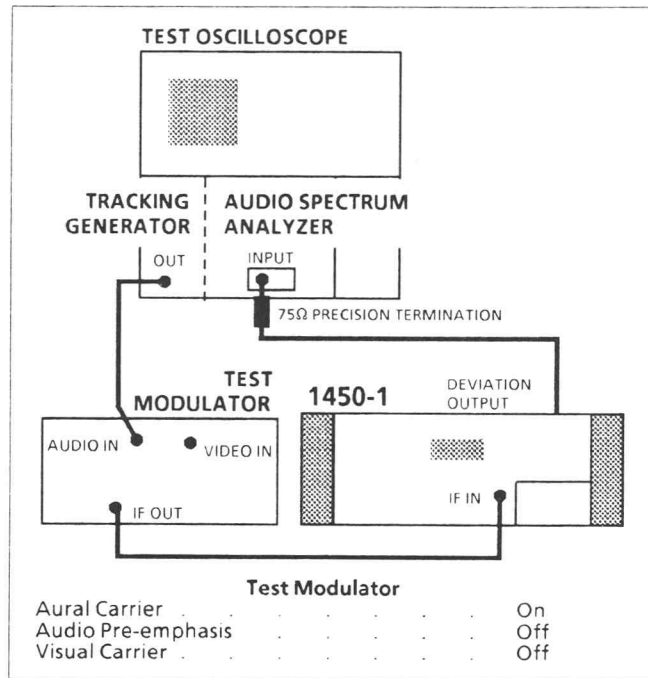

Fig. 4-32. Setup for checking wideband flatness.
- l. Connect and set the equipment as shown in Fig. 4-32.
- s. Connect the equipment as shown in Fig. 4-32, except connect the 600Ω BAL LINE output to the spectrum analyzer audio input.